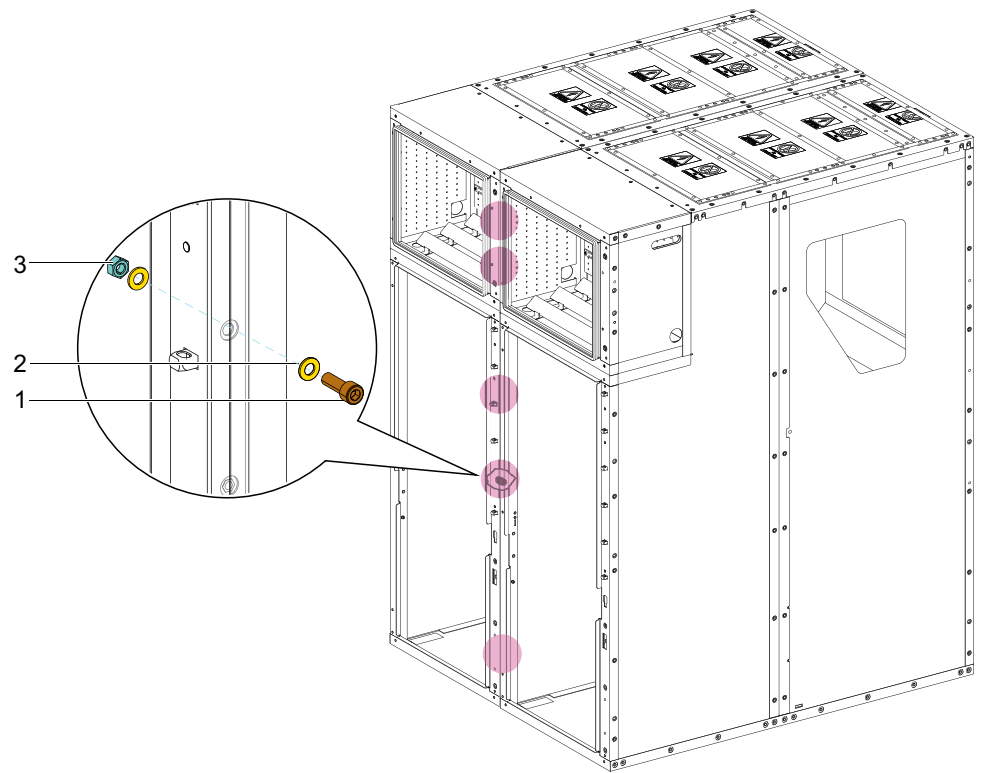

Figure 24
2. Install the cubicles to one another on the front side with five quantities of M10 x 30 screws and rear side with four quantities of M10 x 30 screws (Figure 24).